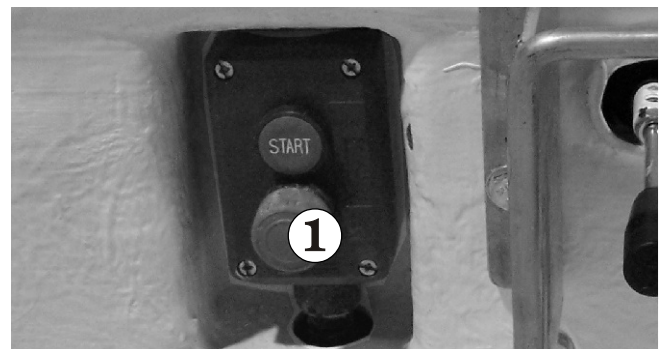

Figure 8.17 - Emergency Stop Switch
Pay particular attention to the **Emergency Stop** switch ① to see that it turns the engine off when struck (see Figure 8.17).